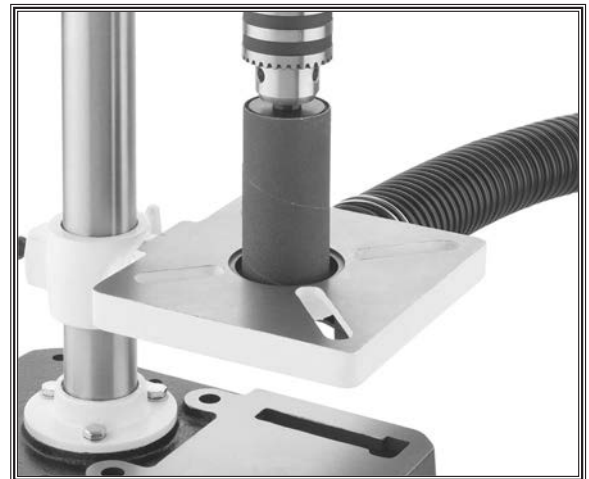

Figure 19. Dust port connected to dust collection system for sanding operation.
1. Fit 2" dust hose over dust port, as shown in **Figure 19**, and secure it in place with hose clamp.